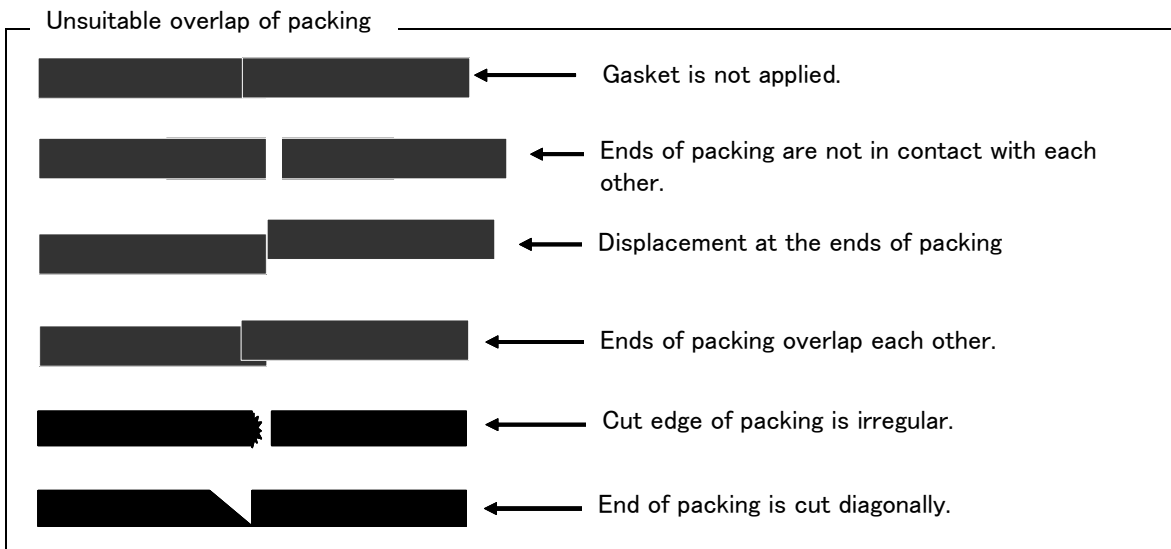

Fig.5-7 : Examples of packing overlaps
- 4) Although the CONBOX cover, shoulder cover and No. 1 arm cover (L) sticks two or more packings per place, it has length with which packing ends overlap. Stick packing in the following procedures. For more information, see "Fig.5-7 : Examples of packing overlaps". Examples of improperly treated cut edge are shown, as well.